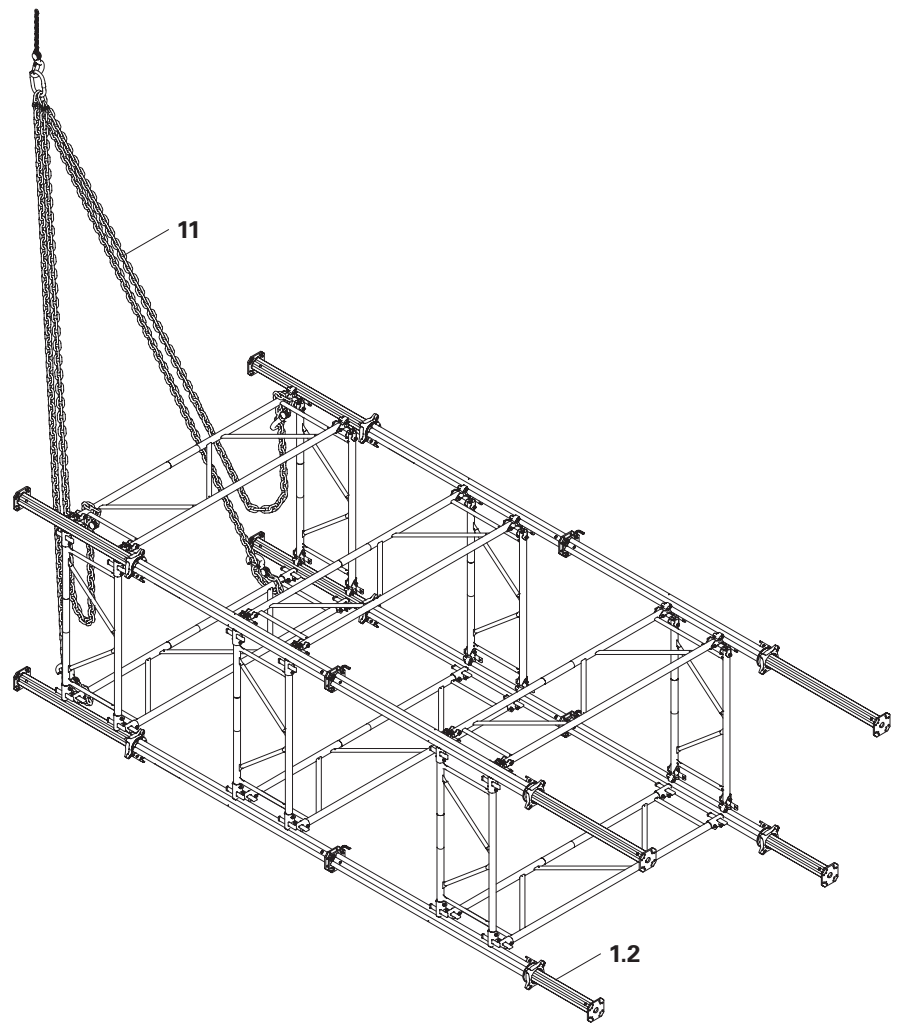

Fig. A7.02
4. Set the MULTIPROP Tower down on a level dismantling surface. (Fig. A7.02)